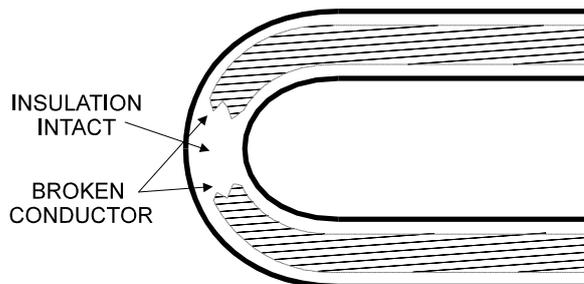

Figure 17-2 Hidden Broken Conductors
20. Alternatively, the damage may not be visible. The conductor could be broken while the insulation remains intact. This may occur where the bend radius of the cable has been exceeded as shown in Figure 17-2.